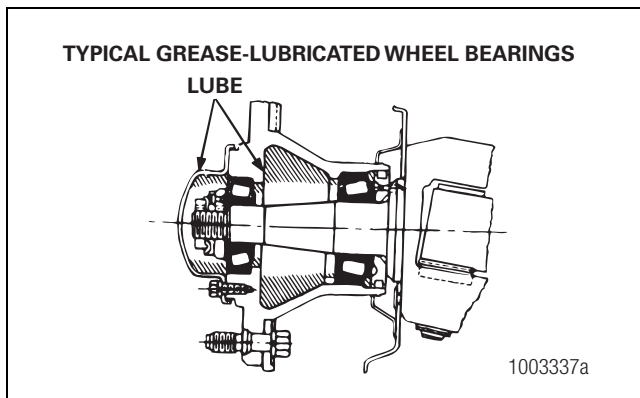

Figure 2.30
5. Before installing the wheel bearings, lubricate the bearing journals on the spindle with the grease that is used for the bearings. Figure 2.30.